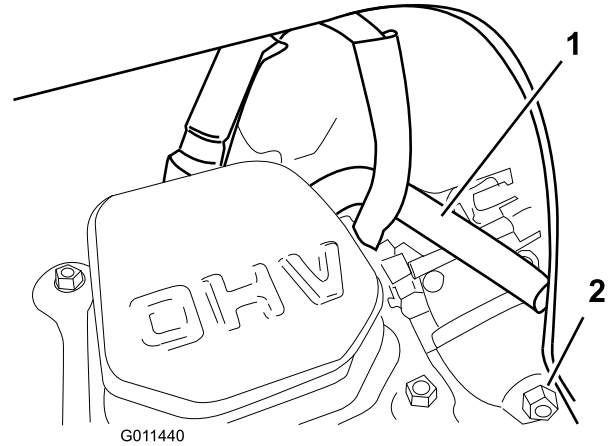

Figure 33
Note: Ensure that the breather tube is routed above the spark-plug wire as shown in Figure 33.
6. Drain the fuel in the carburetor through the carburetor drain bolt (Figure 33) into an approved gasoline container.